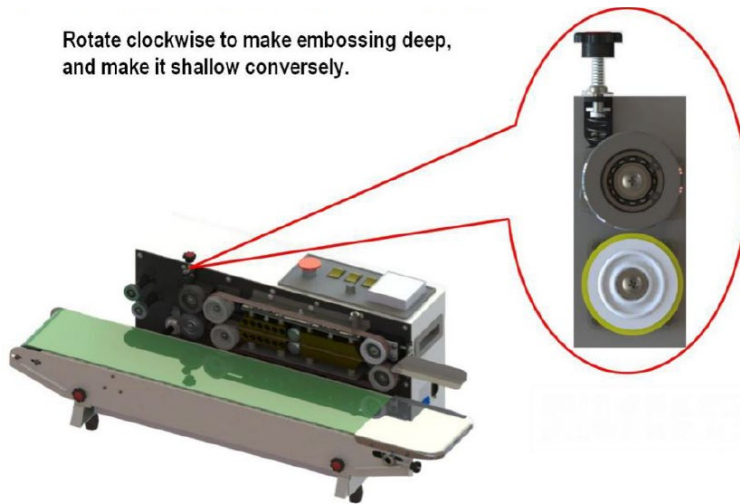

Figure 11. Adjusting the embossing wheel
- Adjust the pressure knob **Figure 11** to change the pattern of the embossing wheel on your band sealer.